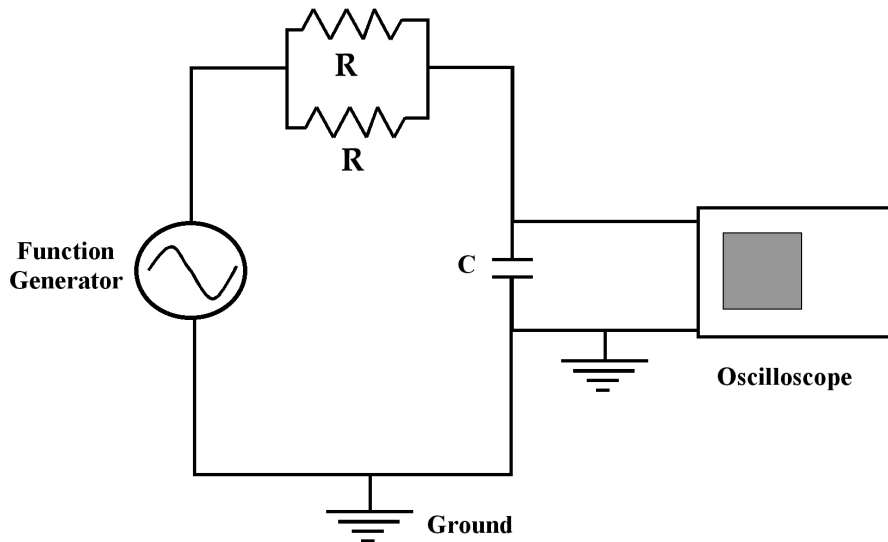

Figure 7: Circuit Diagram for RC Circuit with Two Resistors in Series
1. Construct a circuit with two $10 \text{ k}\Omega$ resistors in parallel and one $0.1 \mu\text{F}$. Refer to Figure 7.